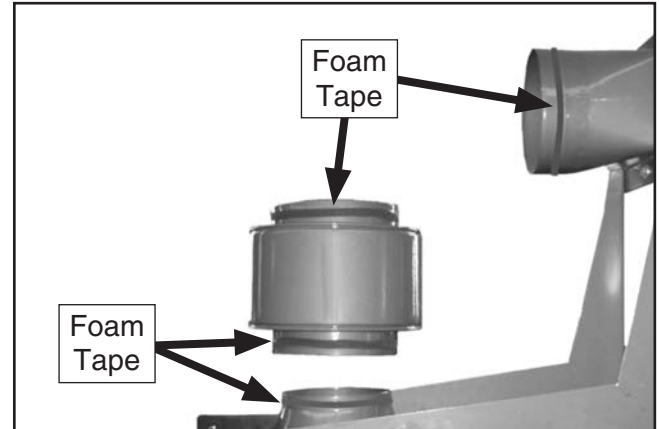

Figure 16. Foam tape applied to upper components.
13. Apply 3 x 15mm foam tape rolls to lips of outlet port, canister adapter, and both ends of muffler, as shown in **Figure 16**.